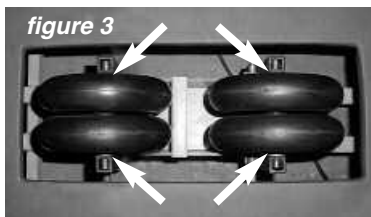

figure 3
5. Also apply a few drops of oil to the axles of the Back Rollers (see fig. 3)